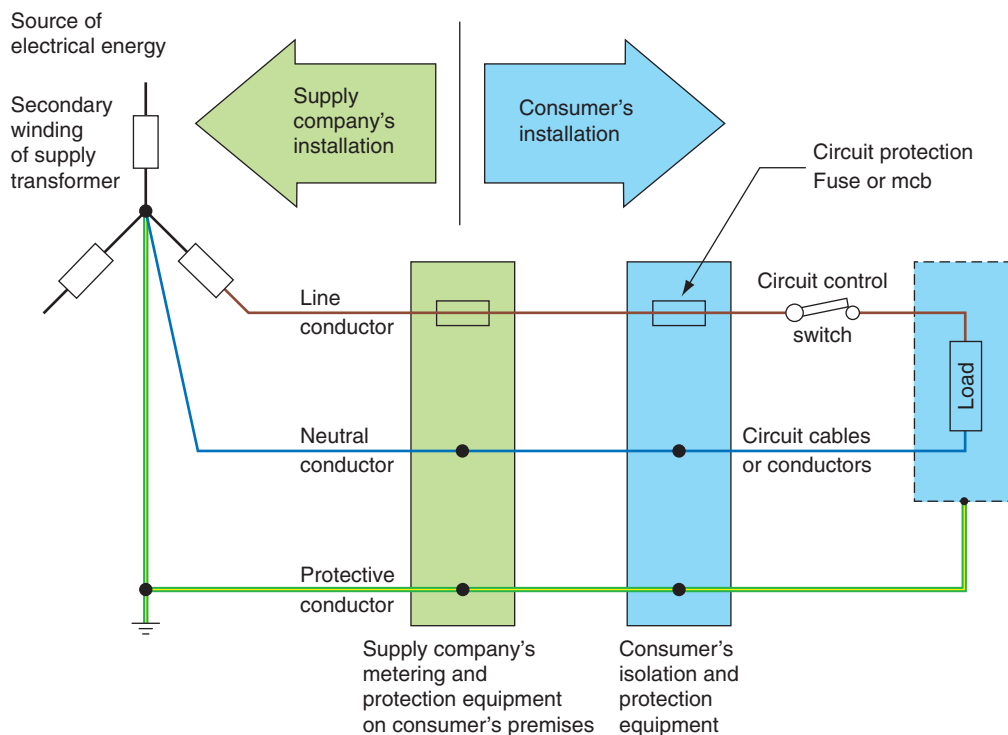

FIGURE 2.10
Refer to Fig. 2.10 for a TN-S system of supply.
- If the circuit shown in Fig. 2.10 in Handout 13 was operating normally, current would flow from the supply to the load along the line conductor, through the load and back along the neutral conductor. The protective device would be chosen to carry this current.